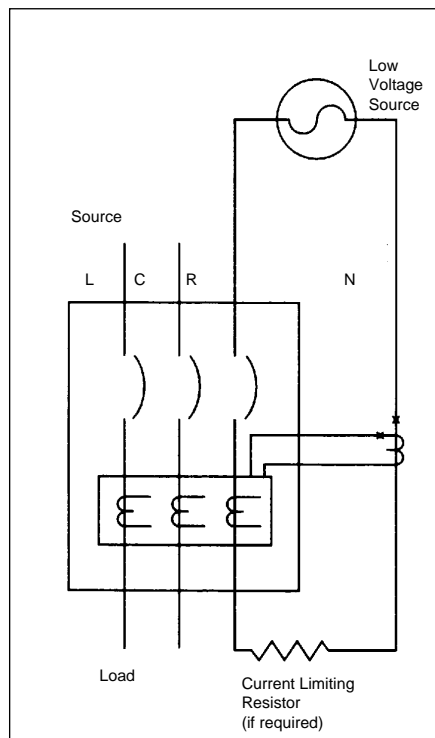

Figure 7-1b Connections for Ground Fault No-Trip Test with a Four Wire System
7.3.5 If the system is a 4-wire system with a neutral current sensor, apply the same current as described in paragraph 7.3.4 above through one phase of the breaker, returning through the neutral sensor, as shown in Figure 7-1b. The breaker should not trip, and the alarm indicator, if supplied, should not operate. Repeat the test on the other two phases.